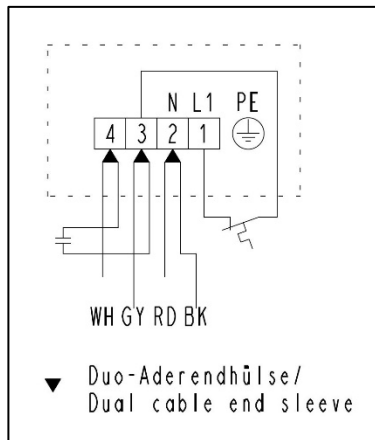

Fig. 12: Electrical Connection
5. Connect the mains cables to the connections L 1 and N of the luster terminal (see Fig. 12).